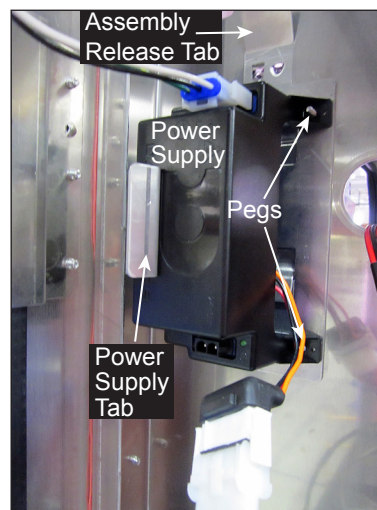

Figure 12: Power Supply Mounted to Upright
2. Disconnect the power cable from the power supply to the modules. Refer to **Figure 12**.
2. Pull the power supply tab. Refer to **Figure 12**.